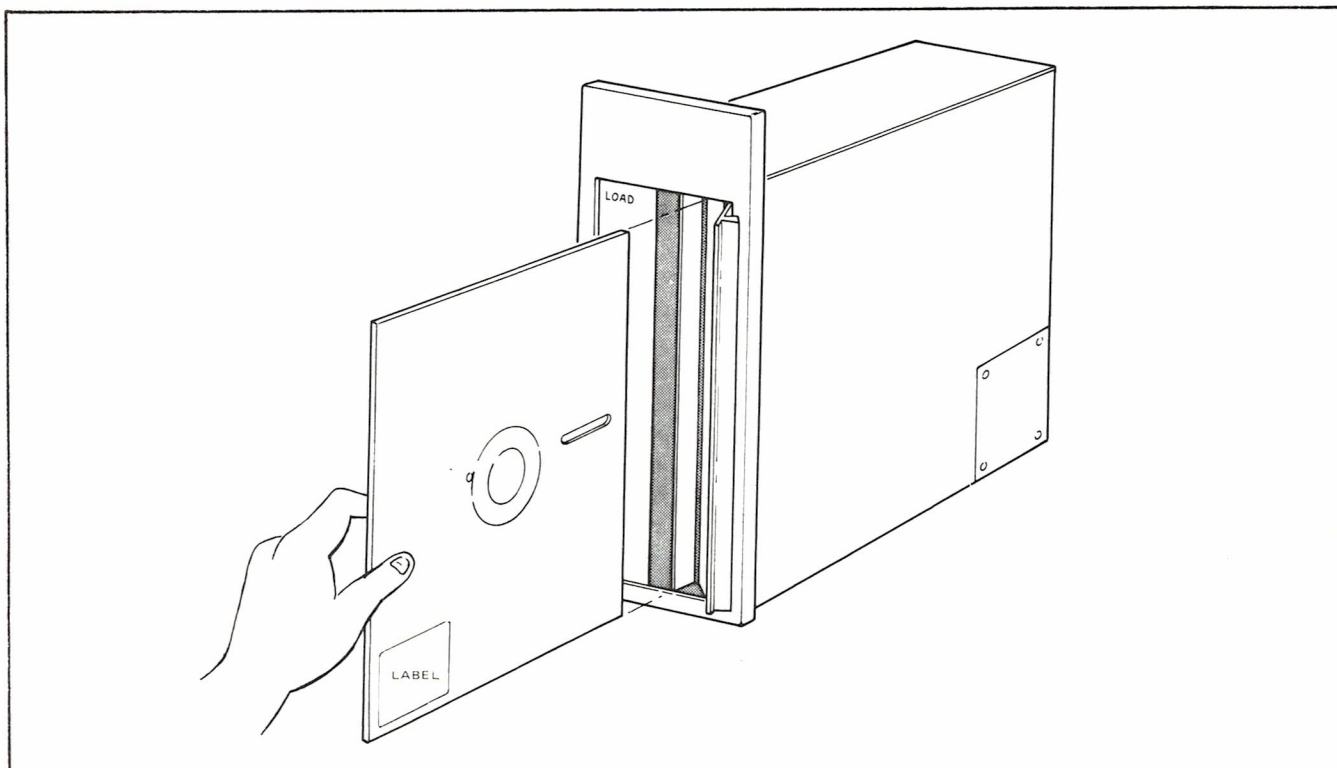

FIGURE 1-3 DISK LOADING PROCEDURE
The Diskette is a flexible disk (floppy disk) enclosed in a plastic jacket. The inside of the jacket is lined with wiping cushions which clean foreign particles from the disk as it spins. Cut-outs are provided in the jacket to facilitate attachment of the disk to the drive spindle and to allow the Read/Write head to come into contact with the disk. The disk may be loaded or removed with all power on and the drive spindle rotating. To load the disk, refer to Figure 1-3 and proceed as follows:
- (1) Open front door.
- (2) Hold the disk as shown in Figure 1-3 with the label and jacket cut-outs facing to the right side (for vertically oriented drives).
- (3) Slide the disk through the insertion slot until a firm stop is encountered.
- (4) If the LOAD lamp remains illuminated, repeat steps (2) and (3) and insure the disk is completely inserted into the drive.